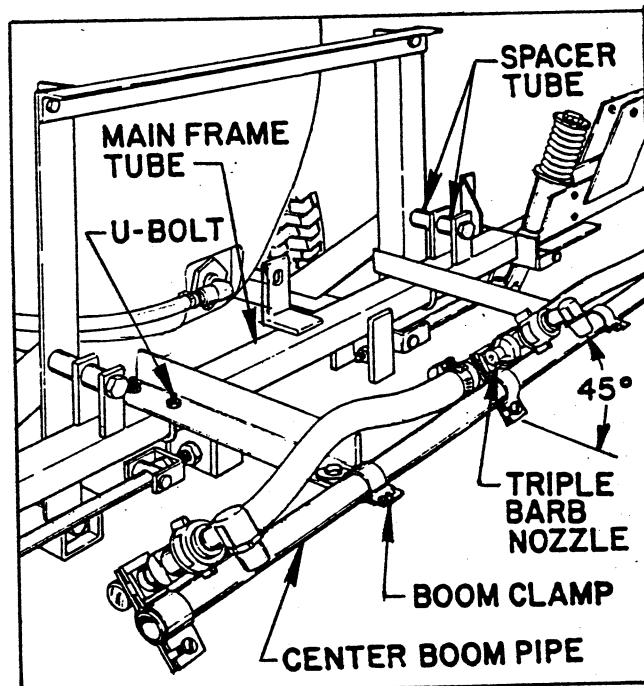

FIG. 7
- Position the Spacer Tubes between the Boom Mount uprights and the lugs on the Main Frame Tube. Use two 1/2" x 4" hex hd cap screws and lock nuts to secure the Main Frame Tube to the uprights. See FIG. 7.
- Position the two Center Boom Angles on the Main Frame Tube as shown in FIG. 7 and secure them to the Frame Tube with "U"-bolts and lock nuts.
- Loosely attach the triple barb Nozzle Assembly in the approximate center of the Center Boom Pipe. For the most uniform spray coverage, position all Nozzle Assemblies at a 45° angle as shown in FIG. 7. Tighten clamp screw to secure the Nozzle to the Boom Pipe.